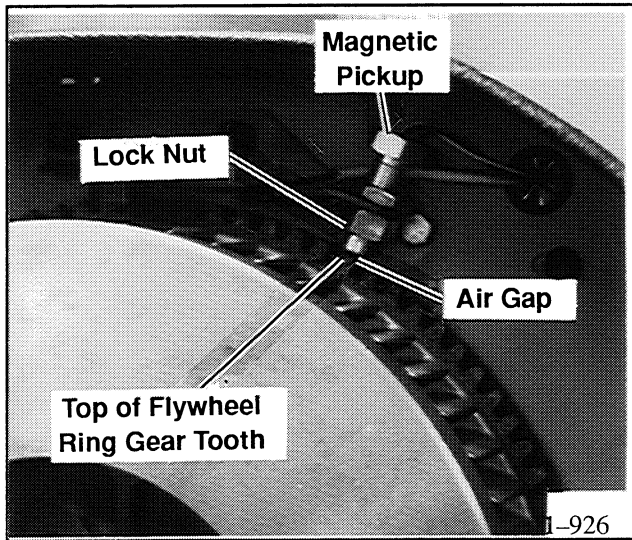

Figure 3-23. Magnetic Pickup Air Gap
2. The magnetic pick-up air gap is 0.040 in. (1.02 mm) ± 0.005 in. (0.127 mm). See Figure 3-23.